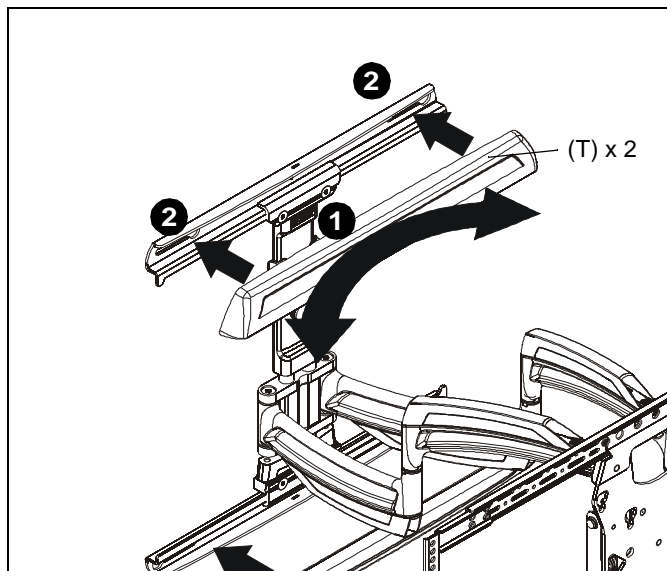

Figure 26
1. Turn wall cover (T) outward to allow outside of covers to wrap around wall rail. (See Figure 26)
2. Place wall cover (T) over wall rail. (See Figure 26)